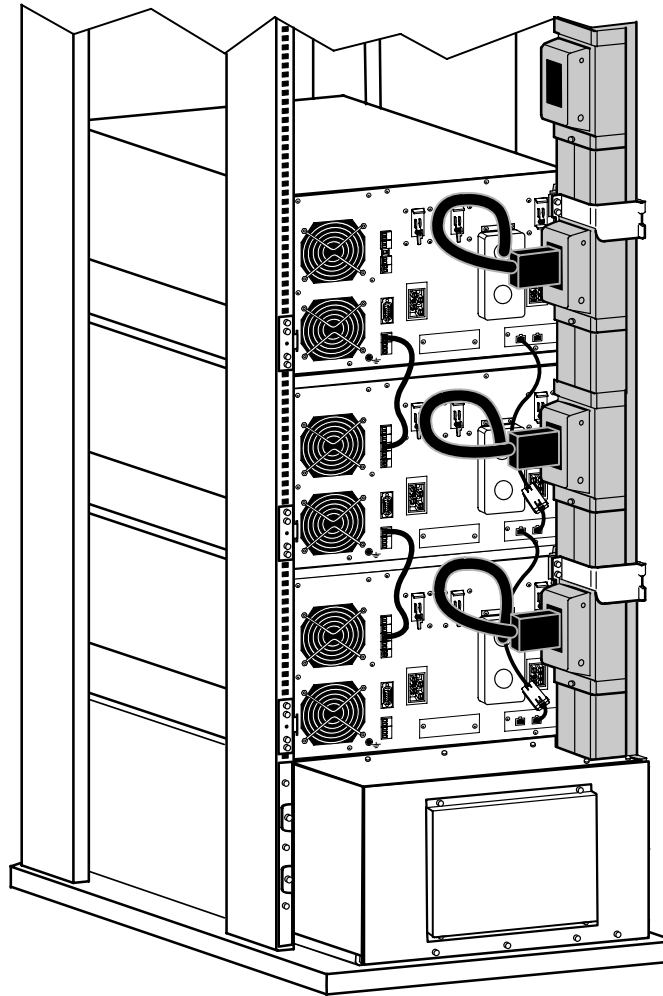

Figure 35. Connecting UPSs to the BladeUPS Bar (Bottom Entry Shown)
18. Connect the parallel input cord from each paralleled UPS to the BladeUPS Bar in the rack as shown in Figure 35.
- 14.** Connect the parallel input cord from the UPS to the BladeUPS Bar in the rack as shown in Figure 35 on page 55.